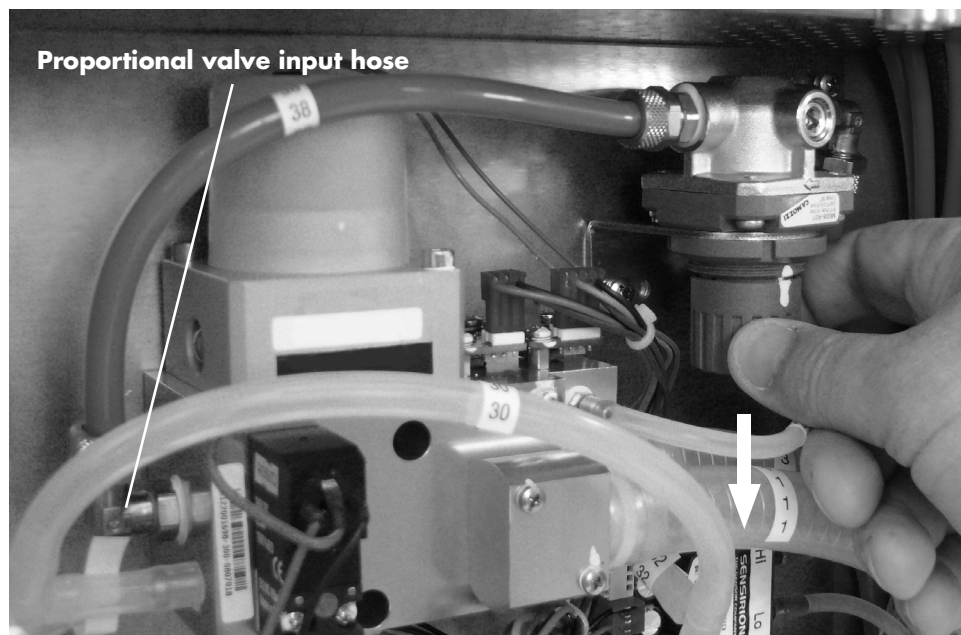

FIGURE 5-1 The Proportional Valve Regulator
6. Set the pressure on the pressure regulator to between 25.1 and 25.7 psi by pulling down on the pressure regulator knob and rotating it until the desired pressure is reached. (see FIGURE 5-1)